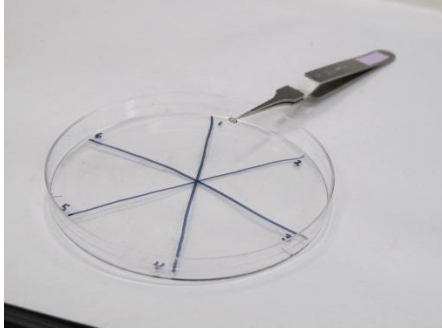

Figure 5. Drying the grid.
- 8) Set the tweezers with the grid on a petri dish such that the grid does not touch anything (Figure 5)